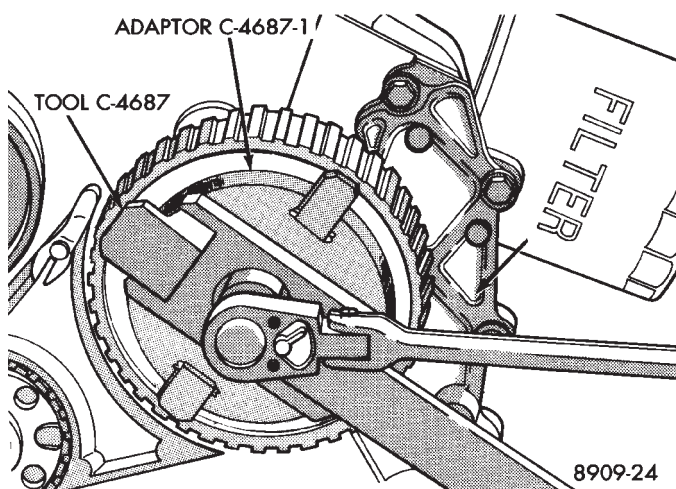
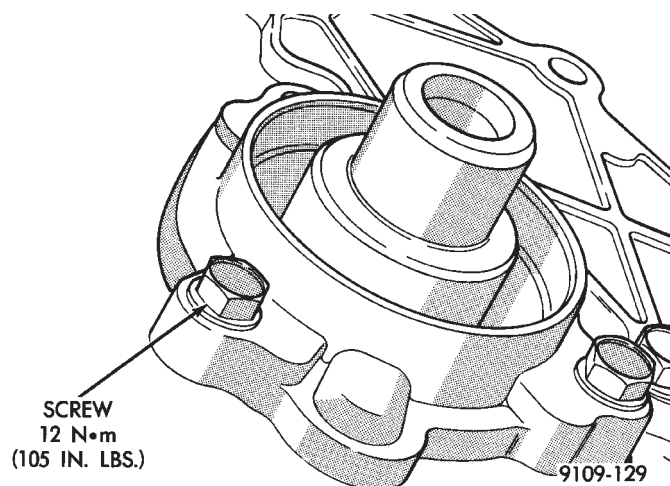

Fig. 23 Removing/Installing Intermediate Shaft Sprocket
Fig. 24 Intermediate Shaft Retainer
(1) Hold sprocket with Tool C-4687 and adaptor Tool C-4687-1 when removing or installing screw (Fig. 23).
(2) See Timing System and Seals for intermediate seal removal and replacement.
(3) Remove retainer screws (Fig. 24).
(4) Remove retainer and lay aside.
(5) Remove intermediate shaft.